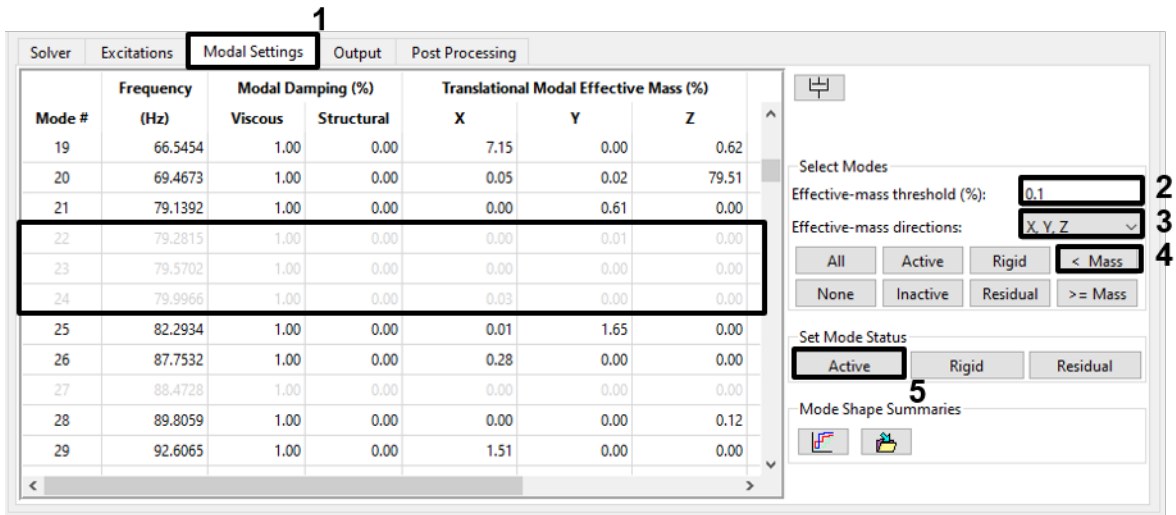

Figure 4-71. Select modes below 0.1% modal effective mass for all translations.
2. On the *Modal Settings* tab, in the *Select Modes* panel, set the *Effective Mass Threshold* to 0.1 and the *Effective Mass Directions* to X, Y, Z. Click the **< Mass** button to select the modes whose effective mass is less than that threshold for all the translations (Figure 4-71).